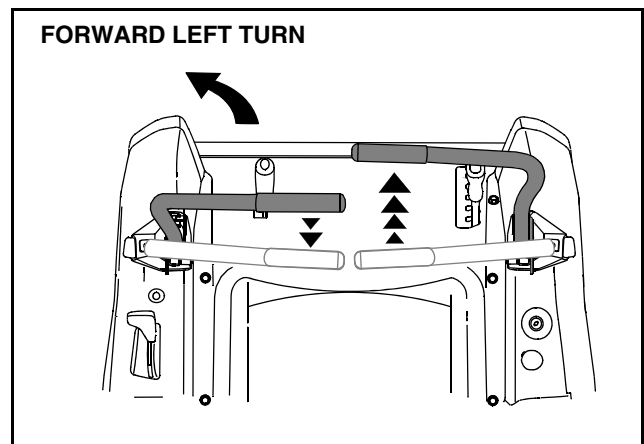

Figure 13
- To turn to the left, move the left drive control lever rearward of the right lever. See Figure 13.